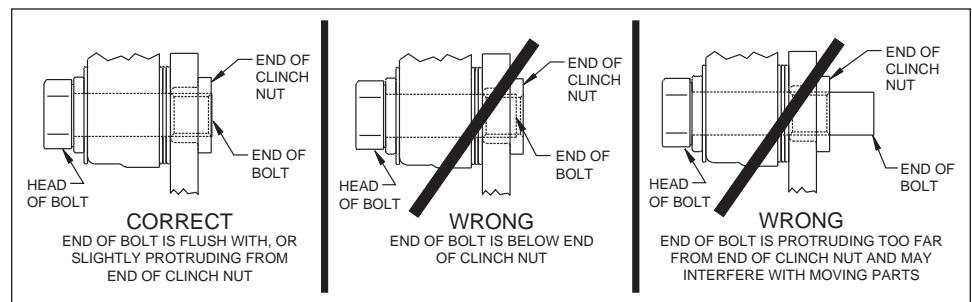

Figure 7. Clinch Nut Engagement Diagram
**Assembly Instructions** (numbers in parenthesis refer to the parts list, and Figure 3 on the preceding pages): **CAUTION:** All mounting bolts must fully engage clinch nuts. Be sure to check that all bolts are either flush or protruding through flanged side of clinch nut after shimming, Figure 7.
Temporarily tighten the mounting bolts and view the rotor (4) through the top opening of the caliper. The rotor should be centered in the caliper, Photo 5. If not, adjust by adding or subtracting shims between the bracket and the caliper. Always use the same amount of shims on each of the two mounting bolts. **NOTE:** The end of each bolt must be flush with or slightly protruding from the head of the clinch nut, as shown in Figure 7. If necessary place spare shims between washer (6) and caliper mounting ear to achieve the proper clinch nut engagement. Once the caliper alignment and clinch nut engagement are correct, remove the bolts one at a time, apply red *Loctite*® 271 to bolt threads, and torque to 40 ft-lb.
- Install the disc brake pads (9) into the caliper, with the friction material facing the rotor (4), and secure in place using pad clip retainer (10), Photo 6.